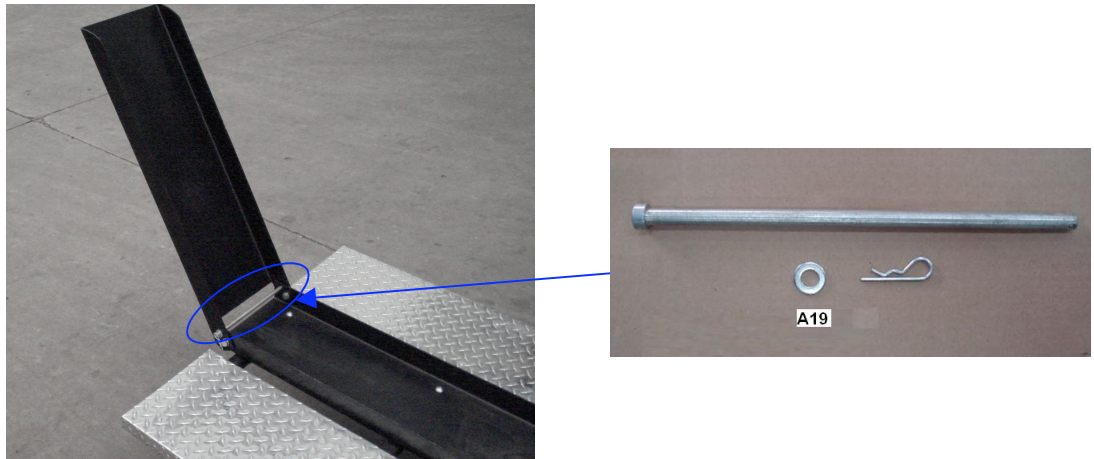

Figure 8-3
3. Once a motorcycle is loaded, lock the Rear Ramp (Part# A4) using 10 Pin Roll (Part# A19). See Figure 8-3.